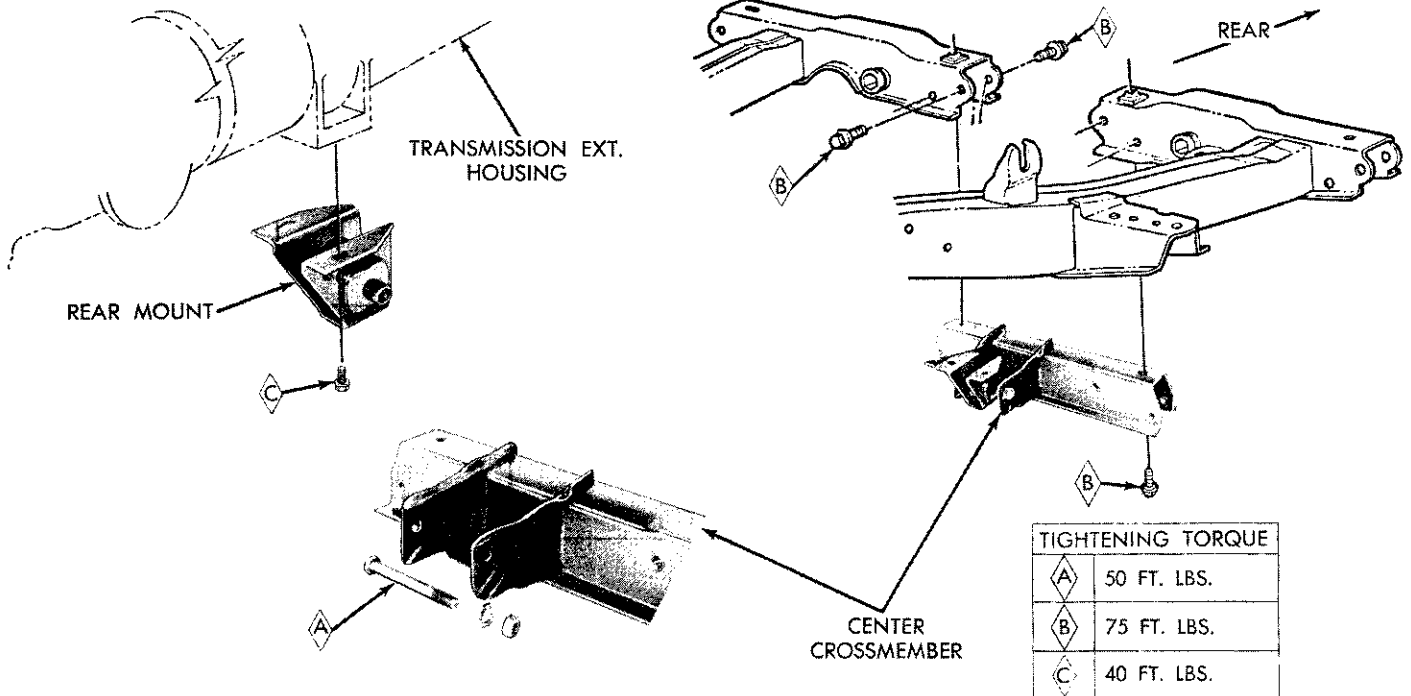

Fig. 39—Center Crossmember and Rear Engine Mount
- (4) Install transmission to clutch housing bolts and tighten to 50 foot-pounds.
- (5) Using a pointed drift, align crossmember bolt holes, then install attaching bolts. Tighten to 75 foot-pounds (Fig. 39).
- (6) Remove engine support fixture and disengage hooks from holes in the frame side rails. Install extension housing to rear engine mount bolts and tighten to 40 foot-pounds. Engine mount to center crossmember bolt and nut, loose assembled to this point, should now be torqued to 50 foot-pounds.
- (7) Referring to "Gearshift Linkage Adjustment", connect shift control rods to transmission levers and connect speedometer cable.